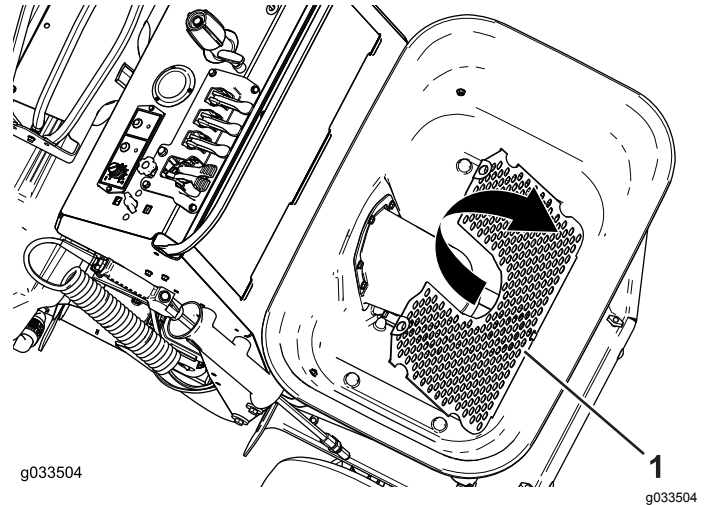

Figure 48
5. Tilt the screen at the bottom of the hopper forward to clean the bottom hopper components (Figure 48).